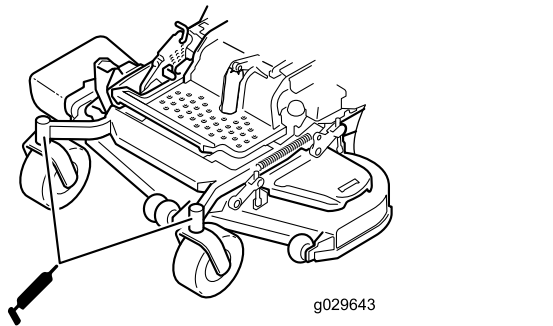

Figure 48
11. Install the hex plug and dust cap (Figure 48).
12. Grease the caster-wheel bearings (Figure 48).